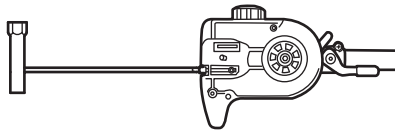

Fig. 6e
6. Ensure that the tension pin (D11) is adjusted to its far right position before assembly the checked or the new chain and guide bar. If not, turn the tension screw (D12) anticlockwise with the slotted screwdriver (E4). (See Fig. 6e)